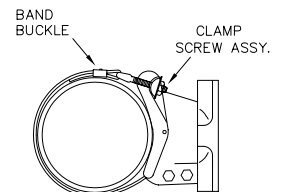

Figure 6
1. Place Female Clamp Half on mast arm with Clamp Screw Assembly as shown in Figure 1. Orient Clamp Kit so Clamp Screw Assembly will be on top side of arm as shown in Figure 6. Place Clamp Screw Assembly in pawl of Female Clamp as shown in Figure 1 allowing two to three (2-3) threads exposed beyond the nut on the Clamp Screw Assembly. (Figure 2)
6. Back off nut on Clamp Screw Assembly until it is flush with clamp screw end. Insert Clamp Screw Assembly on Clamp Pawl. Rotate Clamp Screw Assembly so it is on the side of the mast arm with the Clamp Screw Assembly at the top. (Figure 6)